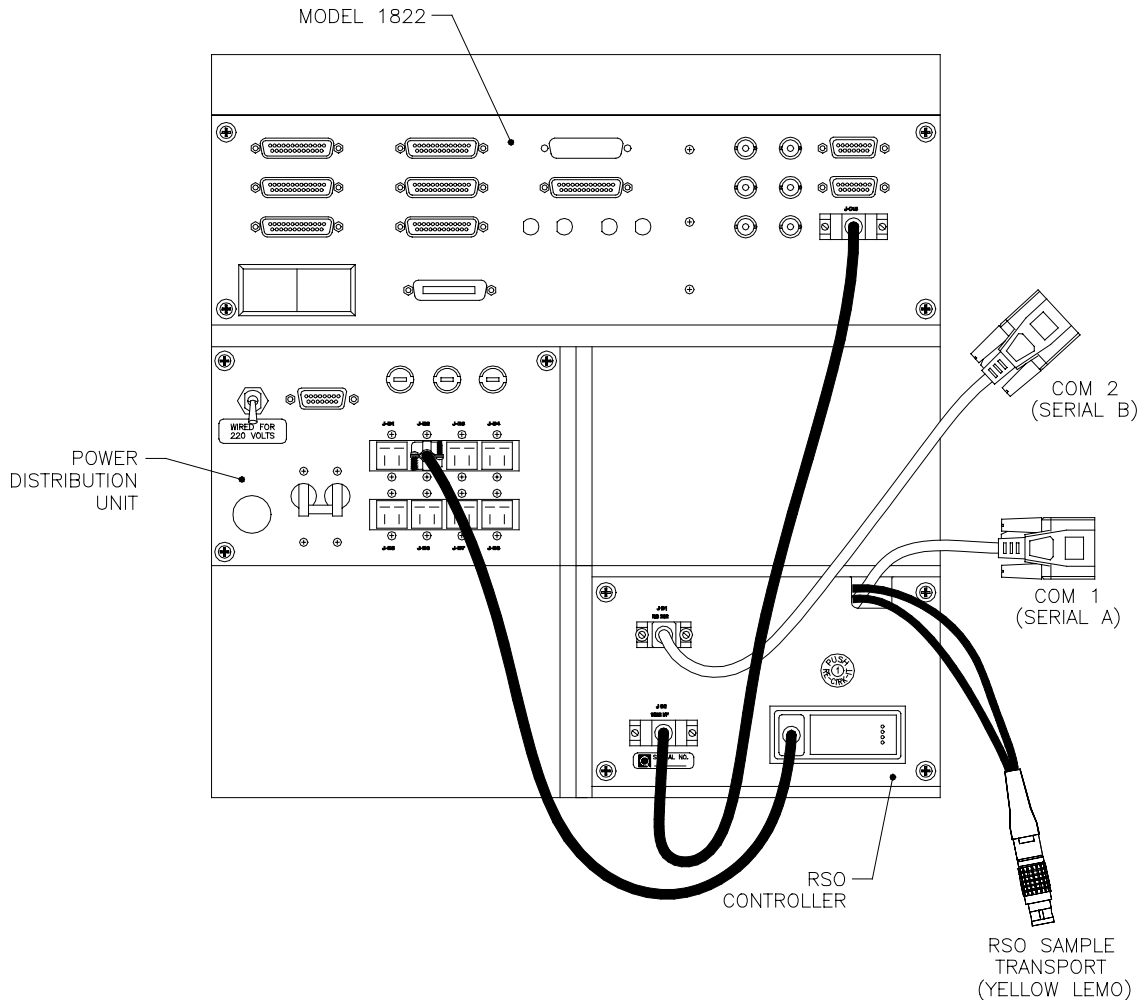

Figure 14. RSO rear panel connections.
3. Use the power cord supplied with the controller to connect the RSO controller to the J-B2 slot on the back of the power distribution unit (PDU). See **Figure 14**.
4. Use the cables supplied to make the following connections to the RSO controller (**Figure 14**).